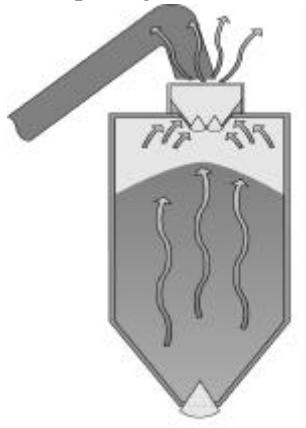

Figure 11.20 Chimney cooling effect with a hot mix silo.
- § As mix cools, it also draws air up through the gate, creating a chimney effect, as shown in figure 11.20, up through the silo and out the opening between the silo and the batcher.